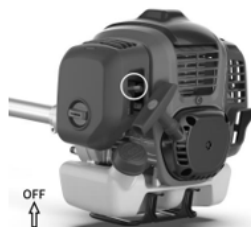

Fig.14
- 3) Move the choke lever to the position . (fig.14)